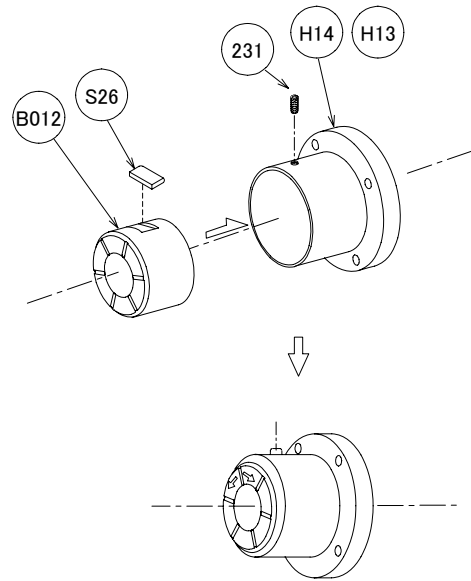

Fig.4-20(a) How to Fix Bearing (Motor Frame No. H1, H2)
Insert the sheet (S26) into the cut-out provided on the outer periphery of bearing before mounting on the housing. Then, insert the bearing into the housing and tighten the setscrew (231) until it strikes the sheet and the bearing can move slightly to left and right. (Refer to Fig.4-20(a).) Tightening the setscrew (231) too tightly causes the bearing to be worn out earlier.